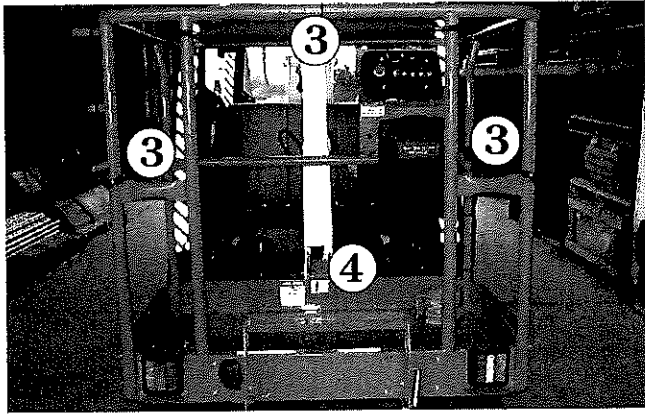

Figure 8.7
3. Enter the platform, close the gravity gate **3**, and attach the lanyard of your safety harness to one (1) of the anchor points **4** (see Figure 8.7).